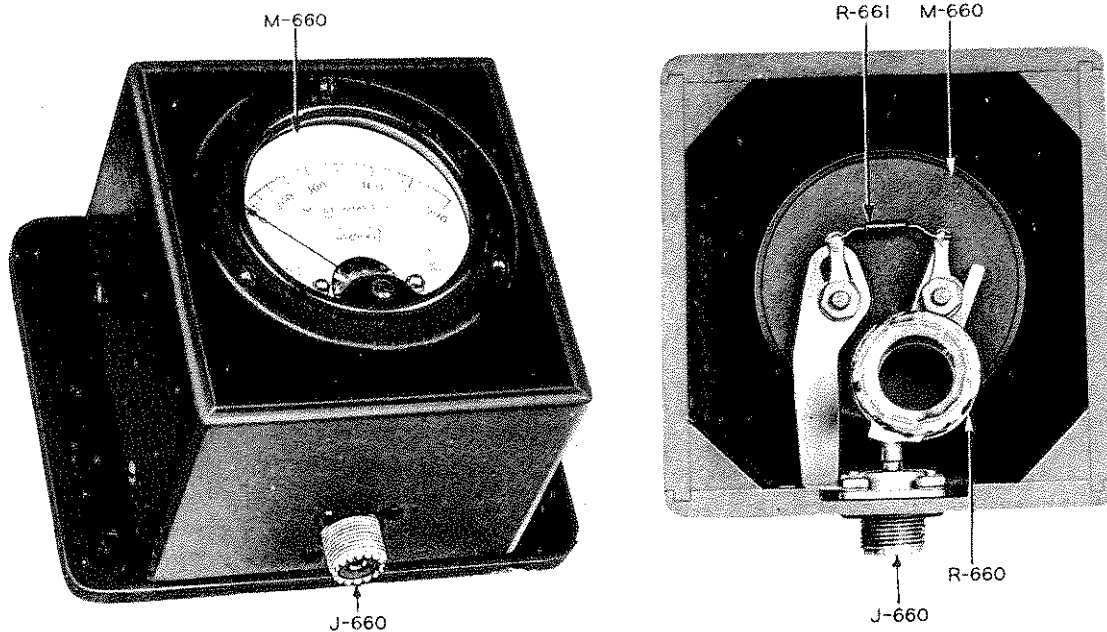

Figure 43—Antenna A-68-A
- Photographs..... Figs. 43, 46 and 49
This artificial antenna is used to provide an output load in the bench testing of VHF transmitters. Its construction is shown in Figure 43. It consists of a non-inductive resistance of approximately 50 ohms in